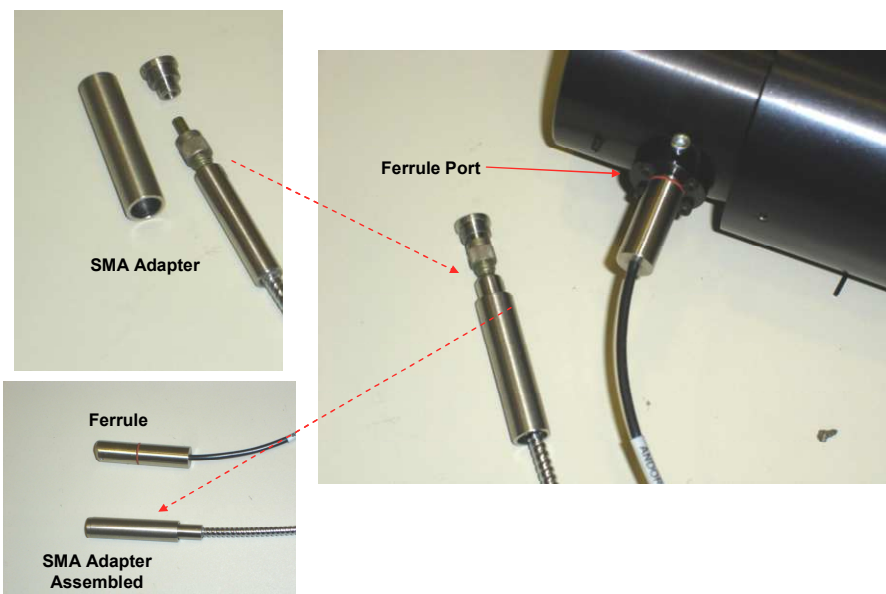

Figure 7: Attaching the ferrule or SMA fiber to the F/# matcher assembly.
- 6) Mount the ferrule fiber in the fiber adapter on the side of the folding mirror tube – see figures 7 and 8. The end of the ferrule can be pushed in the full way and then withdrawn by 1 to 2 mm; this will allow for fine adjustment of the focussing at the end of the process.
- 7) If using an SMA fiber then use the SMA fiber adapter sleeve – see figure 7 – to attach the SMA fiber to the sleeve. Slide the sleeve into ferrule adapter flange as described in step 6 previously.